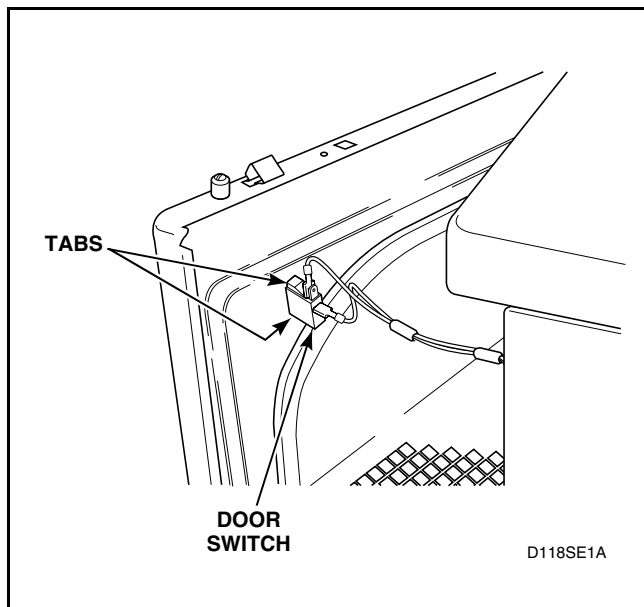

Figure 23
1. Disconnect wires from door switch. Refer to *Figure 23*.
- k. Disconnect wires from door switch. Refer to *Figure 23*.
- l. Disconnect wires from door switch. Refer to *Figure 23*.
- m. Disconnect wires from door switch. Refer to *Figure 23*.